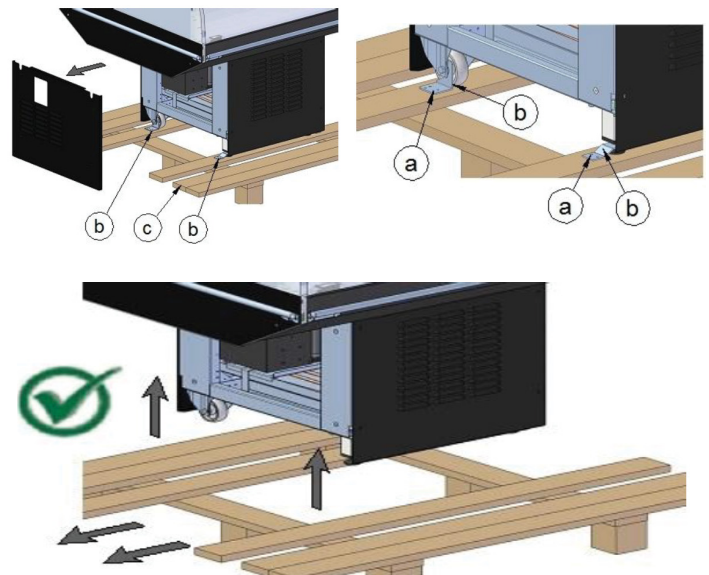

Fig. 2
1. Remove the panels to gain access to the fixing brackets (Fig. 2).